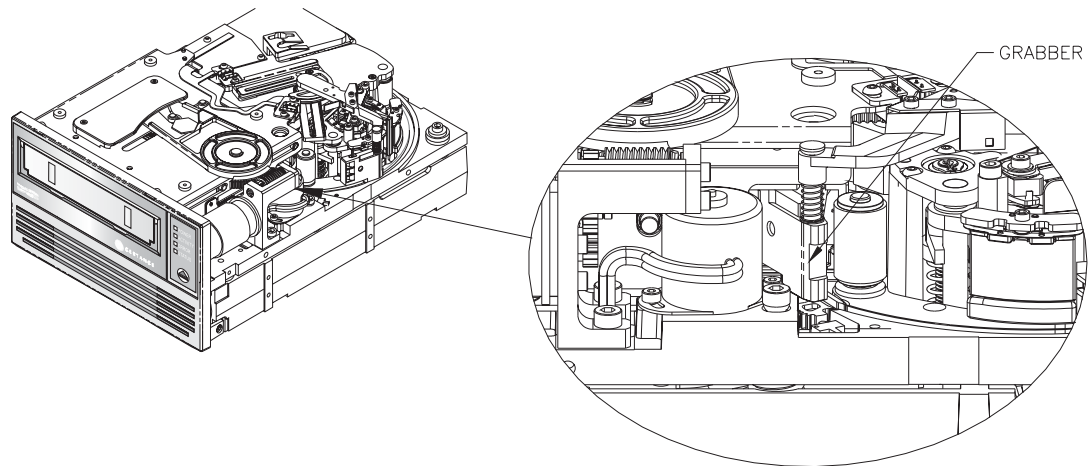

Figure 6. Tape Grabber Near the Cartridge
9. Carefully push the grabber in toward the cartridge, as shown in Figure 6 on page 7.